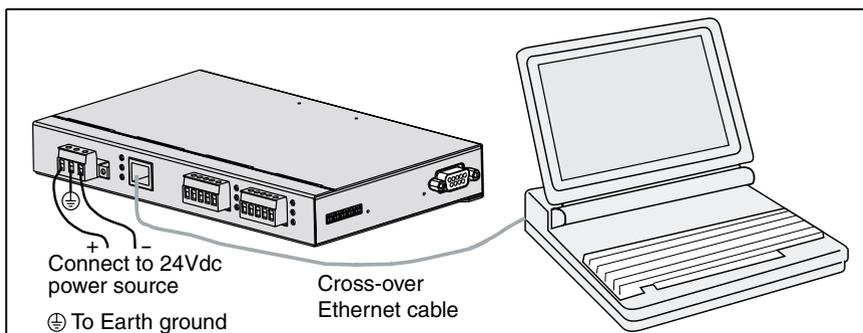

Figure 3–1: Connecting PC to EGX200 using cross-over Ethernet cable
1. Connect a cross-over Ethernet cable from the EGX200 to the PC, as shown in Figure 3–1.